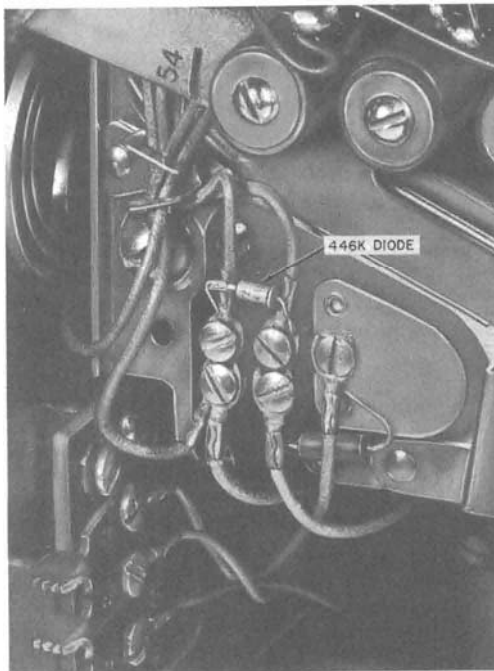

Fig. 2—Installation of 446K Diode
**3.03** Install 446K diode between terminals A and E on coin chute terminal board (Fig. 2 and 3).